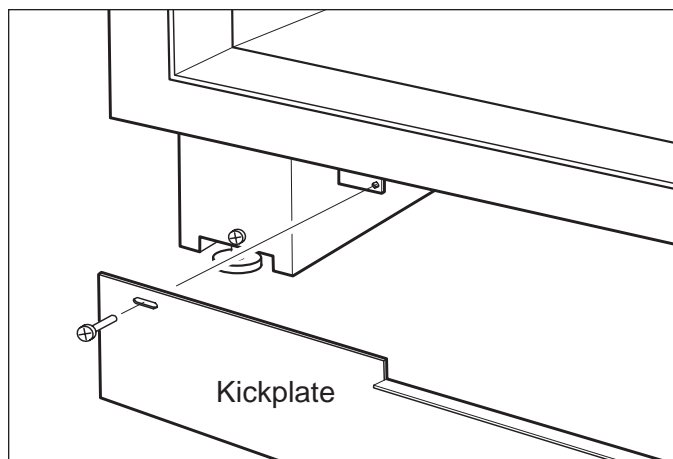

Figure 2-11. Kickplate Removal
1. To level unit, first remove kickplate (See Figure 2-11).